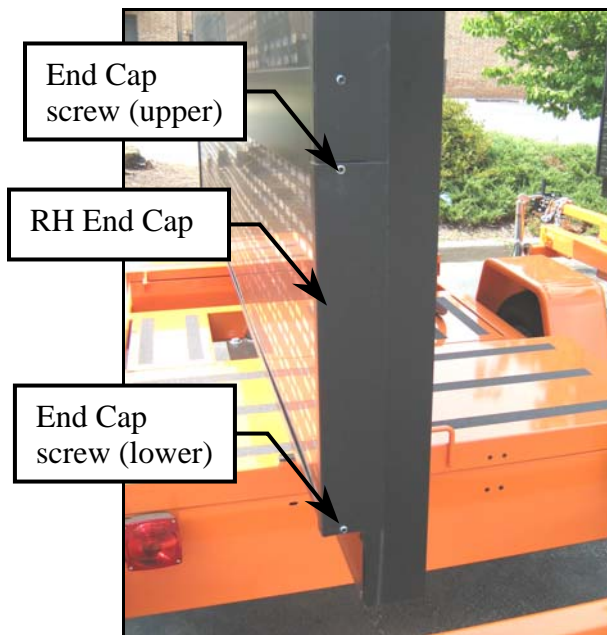

Figure 3-6a RH End Cap
- Remove the screws holding the End Cap on the right side of the silkscreened Lens. Remove End Caps from as many rows as need to be accessed. (See Fig. 3-6a)